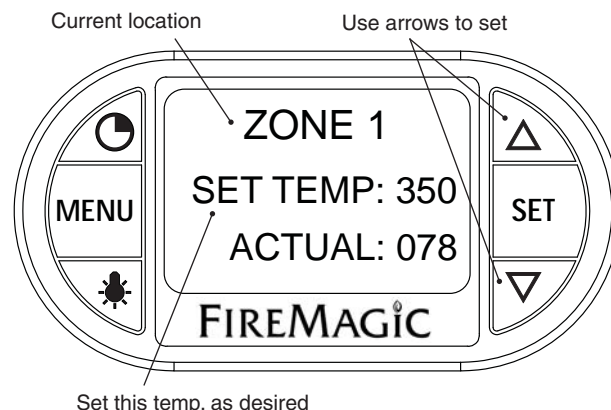

Fig. 26-1 Area temp. screen (zone 1 shown)
2. The selected location's temperature screen will be displayed. Use the arrows to set the desired temp. The actual temp. will also be shown. See Fig. 26-1.